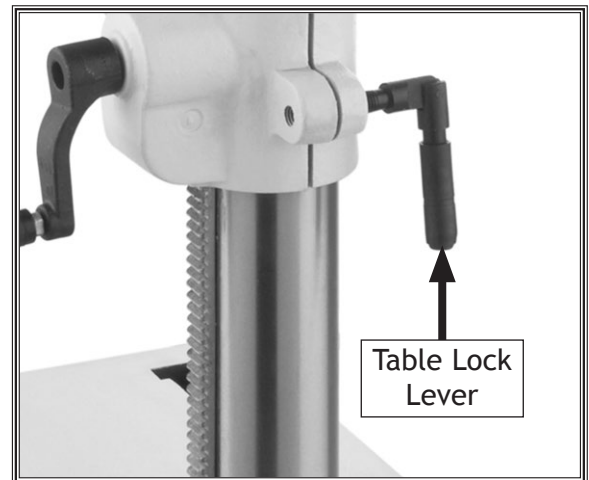

Figure 19. Location of table lock lever.
13. Secure the table support with the table lock lever (see **Figure 19**).
30. Secure motor position by threading the motor lock screw into tension block on headstock, as shown in **Figure 19**.